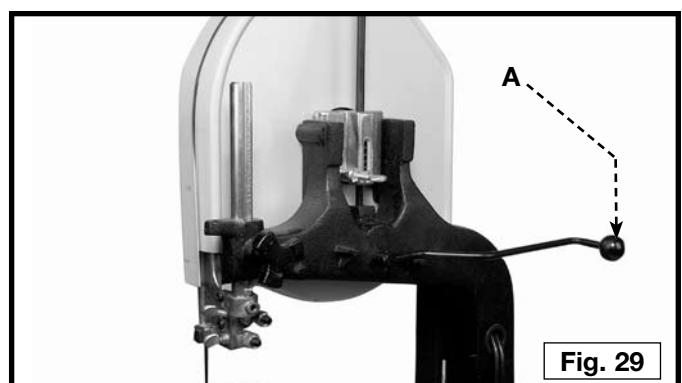
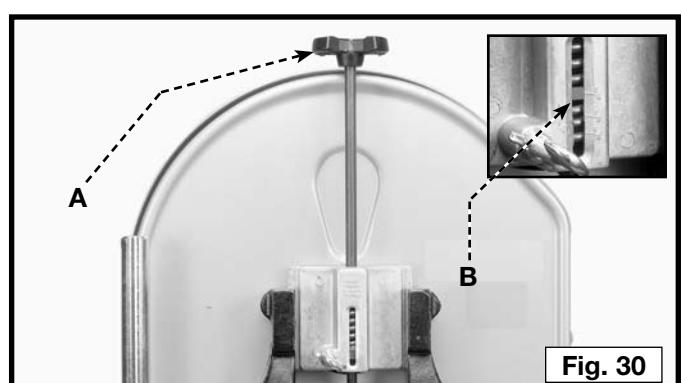

Fig. 29
Fig. 30
The machine is equipped with a tension handle (A) Fig. 28. To apply tension, move the tension handle (A) Fig. 28 toward the back. To release the blade tension, move the tension handle (A) Fig. 29 toward the front.
To adjust the blade tension, move the blade tension handle toward the back (Fig. 29). A scale is located on the back of the upper wheel slide bracket. The graduations on the scale indicate the proper tension for various widths of blades. With the blade on the wheels, turn the knob (A) Fig. 30 to raise or lower the wheel until the red fiber washer (B) Fig. 30 is in line with the proper graduation for the size of the blade used.